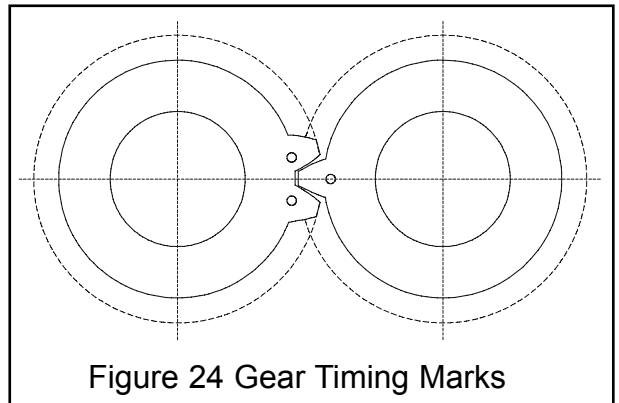

Figure 24 Gear Timing Marks
- g) Repeat c) to f) for drive shaft. Note: when fitting the second gear, align gear timing marks. (See figure 24).
Before carrying out instruction i) fit the gear drive keys (28), gears (6), tab washers (7) and gear nuts (8). Ensure that the timing marks (see fig 24) are aligned. Tighten the gear nuts to the torque shown on the Performance Data Sheet. Finally, bend over the tab washers to lock the gear nut in place.
- i) Front oil seals (23) should be pressed in, until they are flush with the front face of the bearing housing (1). Take care not to curl or damage the lip or displace the gaiter spring on the shaft. Ensure they are square to the shaft (not tilted).
- j) Assemble gear cover (11) to bearing housing (1), using new gasket (9), new rear oil seals (20) and gearcover screw seals (19). Be careful not to damage the lip seal on the drive shaft keyway.
- k) Ensure vent plug (12) is at highest point, the sight glass (13) on the side of the cover and the oil drain outlet is at the lowest point and sealed with a suitable thread sealant.
- m) Fill gearbox with the correct grade and quantity of oil. (see section 3) This should be to the centre of the sight glass (13).